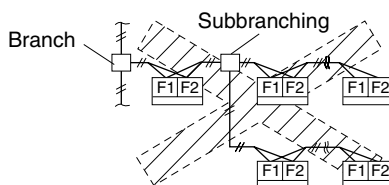

Fig. 15
- (3) Max. branches No. of branches :16
- Up to 16 branches are possible for unit-to unit cabling. No branch is allowed after first branch. **(Refer to Fig. 15)**